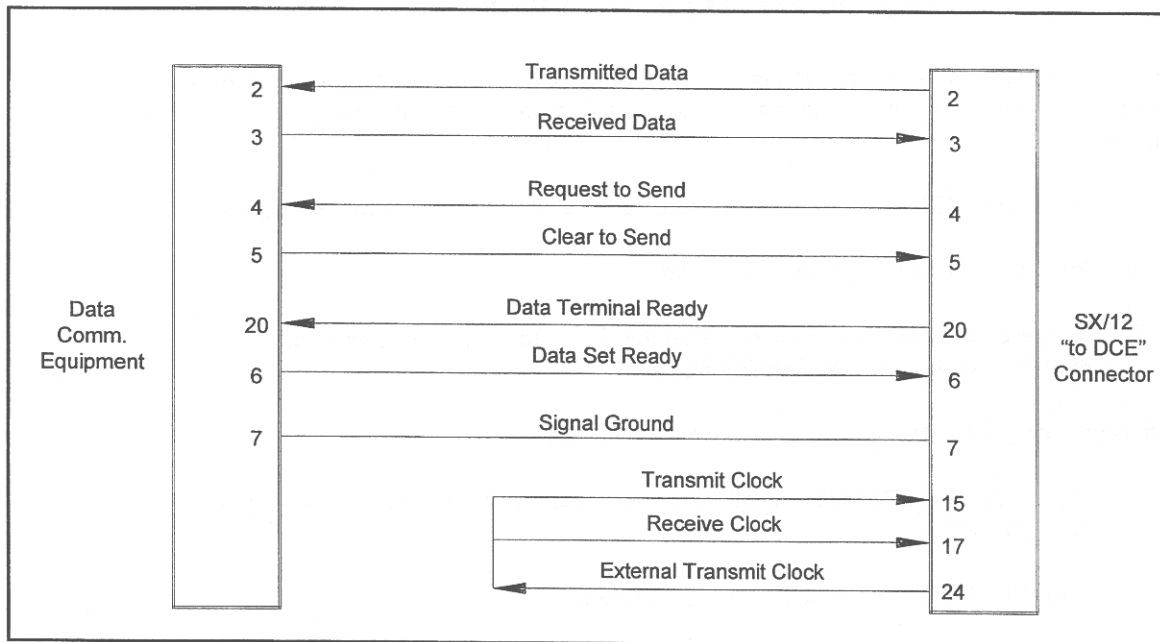

Figure 3.0 Asynchronous RS-232c Patch Cable
2. Using a break-out box or a modified cable on the West “to DCE” connector, connect the external transmit clock signal to the transmit and receive clock signals as shown in Figure 3.0 . Also connect the Data Communications Equipment to this connector.